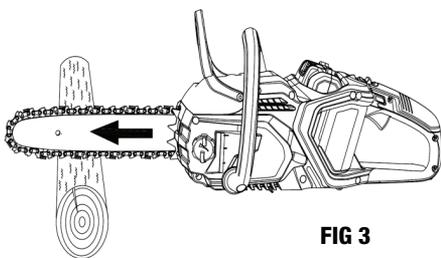

FIG 3
- **Push and Pull** - This reaction force is always opposite to the direction the chain is moving where wood contact is made. Thus, the operator must be ready to control the **PUSH** when cutting along the top edge. **PULL** when cutting on the bottom edge of the bar. See fig 3 & 4.